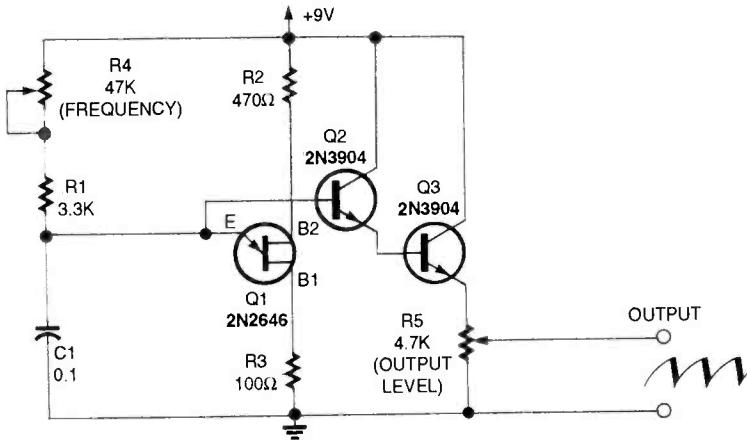
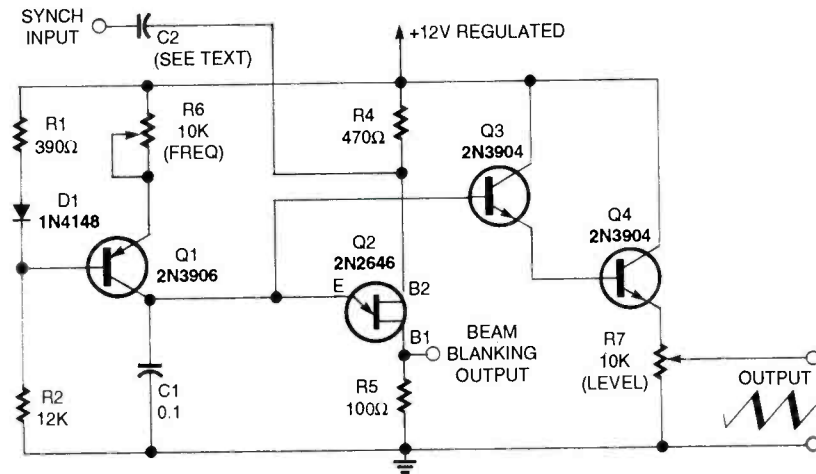

FIG. 12—A NONLINEAR SAWTOOTH GENERATOR that works over a range of 25 Hz to 3 kHz.
FIG. 13—THIS LINEAR SAWTOOTH GENERATOR can function as a oscilloscope timebase generator and can blank the CRT beam.
timer offers the best way to generate positive-going triggered sawtooth waveforms. However, if you want to generate free-running, positive-going sawtooth waveforms, this can be done with a unijunction transistor or UJT, connected in the circuit shown in Fig. 12.
In Fig. 12, capacitor C1 charges exponentially towards the positive supply voltage through trimmer potentiometer R4 and R1 until the voltage on C1 reaches the firing value of the UJT Q1. At that time, the Q1 switches on and rapidly discharges C1. As soon as C1 is discharged, Q1 turns off again, so C1 starts to recharge again through R4 and R1.
transistor whose terminals are identified as emitter (E), base 1 (B1), and base 2 (B2). A UJT is connected as shown in Fig. 12 as Q1 with its B2 positive with respect to B1, and with the input applied to its emitter terminal.
The linear sawtooth generating circuit in Fig. 12 can be modified to become an oscilloscope timebase generator. The modified circuit is shown in Fig. 13. Capacitor C1 is charged by a constant-current source. In this circuit, Q1 functions as a temperature-compensated, constant-current generator. Its current can be varied from 35 to 390 microamperes by adjusting frequency trimmer potentiometer R6.
The operating frequency of the Fig. 13 circuit can be varied from 60 to 700 Hz with R6 if all of the component values are as shown. Other frequency ranges can be obtained by substituting other values for capacitor C1. The timebase generator can be synchronized to an external signal by feeding the external signal to UJT Q2 through the sync input capacitor C2.